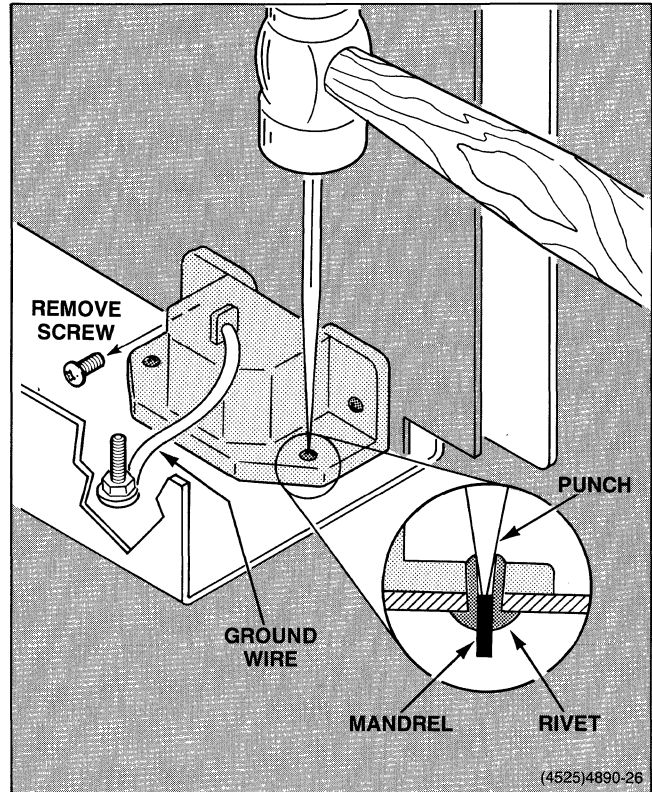

Figure 6-7. Removing Power Receptacle Rivets.
2. Figure 6-7 shows how to disconnect the ac power receptacle from the chassis. First, using a scribe and hammer, tap the mandrel (pin) through each of the two rivets. Now, push out the rivets. The ac receptacle is free from the chassis.